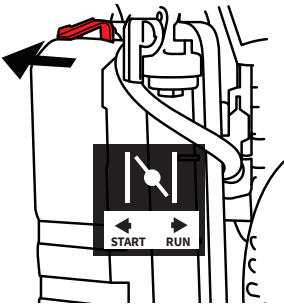

FIGURE 11
5.2.5 Turn the engine switch to START. Once the generator is running turn it to the ON position. **FIGURE 11.**